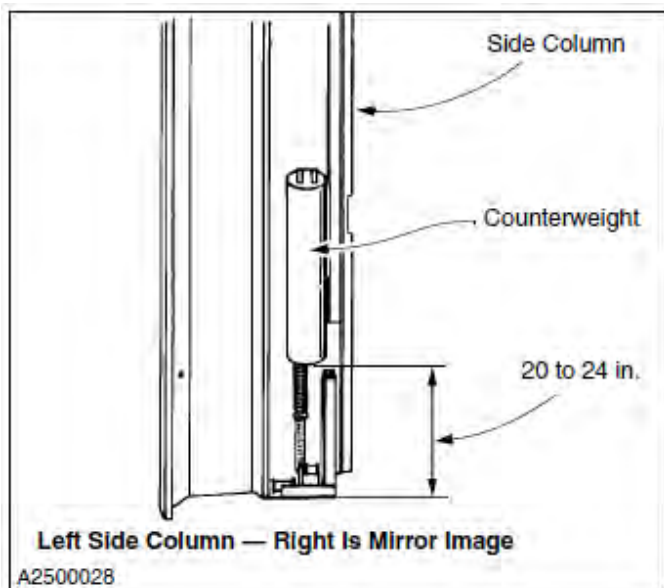

Figure 31
3. Inspect the counterweight straps for stretch. With the door in the full-open position, the counterweights will hang at their lowest point in the side column. The distance from the bottom of the counterweight to the base of the side column should measure 20 to 24 in. (See Figure 31.)
4. If a strap has stretched to the point where the counterweight is not in the position as shown in Figure 31, reposition the counterweight by adjusting the strap. (See "COUNTERWEIGHT STRAP ADJUSTMENT" on page 23.)